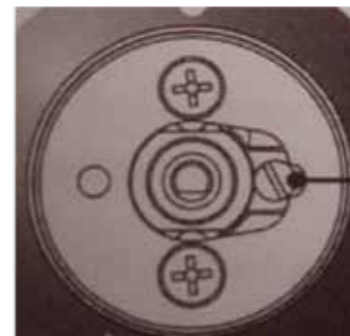

Figure 1
Minimum flow of cooking hob taps (Figure 1)
- Using a screwdriver, adjust the internal screw until the correct low flame is obtained, the screw is located just to the right of the shaft see figure 1